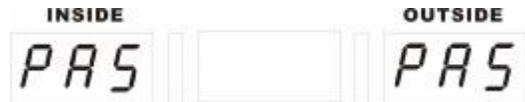

Fig 20
- The display information of the re-measurement operation is as shown in Fig 20.